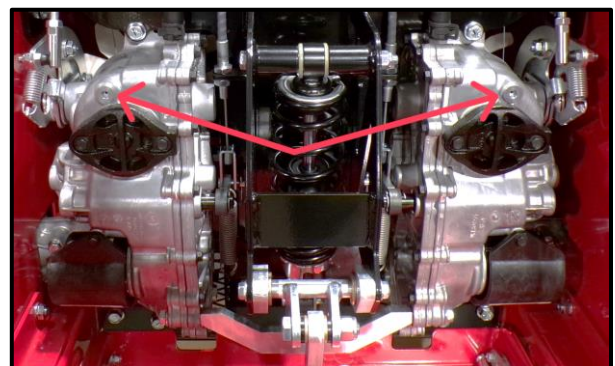

Figure 6 Plug Locations on Transaxle
12. Remove the plugs from the location shown [Figure 6] using a 1/4" Hex Bit Socket and ratchet. ***Do Not Discard*** **Note:** This should help the transaxles drain completely.